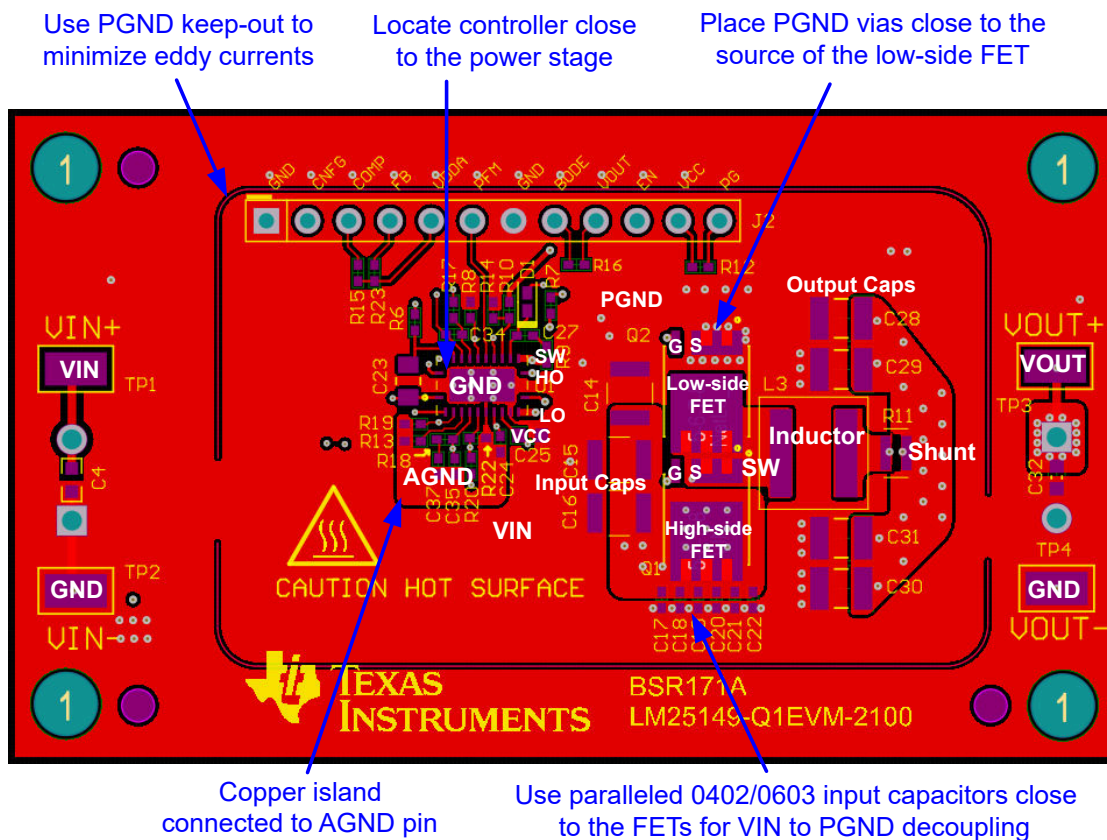

图 11-2. PCB Top Layer – High Density, Single-sided Design
图 11-2 shows a single-sided layout of a synchronous buck regulator with discrete power MOSFETs, Q1 and Q2, in SON 5-mm × 6-mm case size. The power stage is surrounded by a GND pad geometry to connect an EMI shield if needed. The design uses layer 2 of the PCB as a power-loop return path directly underneath the top layer to create a low-area switching power loop of approximately 2 mm². This loop area, and hence parasitic inductance, must be as small as possible to minimize EMI as well as switch-node voltage overshoot and ringing.
- Make the ground connections to the LM25148-Q1 controller as shown in 图 11-2. Create a power ground directly connected to all high-power components and an analog ground plane for sensitive analog components. The analog ground plane for AGND and power ground plane for PGND must be connected at a single point directly under the IC – at the die attach pad (DAP).